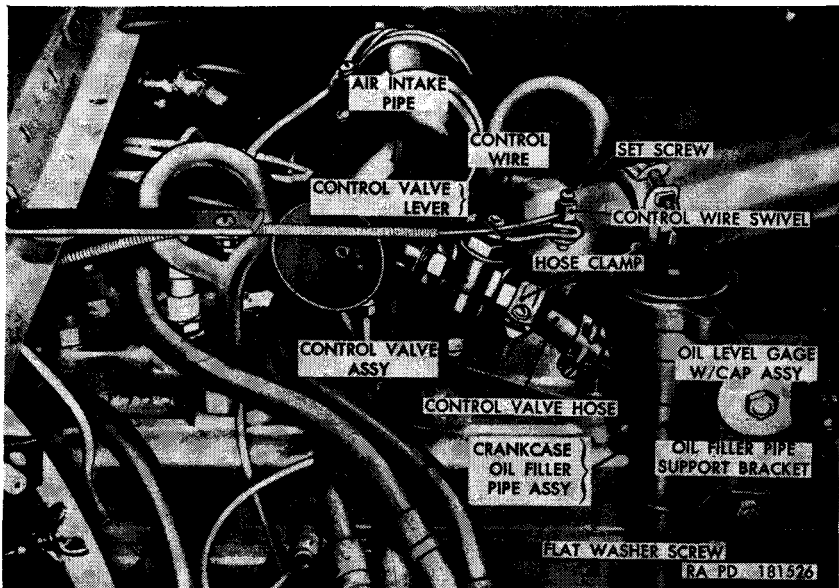

Figure 28. Air cleaner control valve assembly—air cleaner removed.
*a. Air Cleaner Control Valve Assembly (fig. 28).*
## **112. Oil Filler Pipe Assembly** (fig. 28)